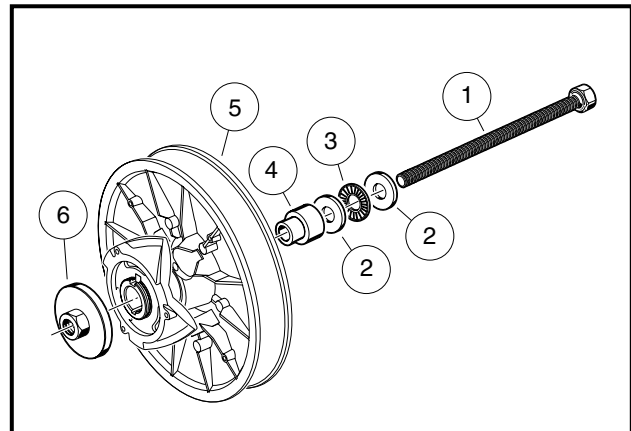

Figure 17-20 Cam Installation Tool
**NOTE:** This process is for field or remote assembly requirements where hydraulic and pneumatic press equipment is not available. Use the Cam Installation Tool (CCI P/N 101808401) for this process (Figure 17-20, Page 17-17).
- 5.2.1. With the clutch loosely assembled, set the edge of the clutch body (5) on a clean, flat surface (Figure 17-20, Page 17-17).
- 5.2.3. Slide the bolt (1) through the clutch body (5) until the threaded bolt, washers, bearing, and hub guide are against the fixed face hub (Figure 17-20, Page 17-17).